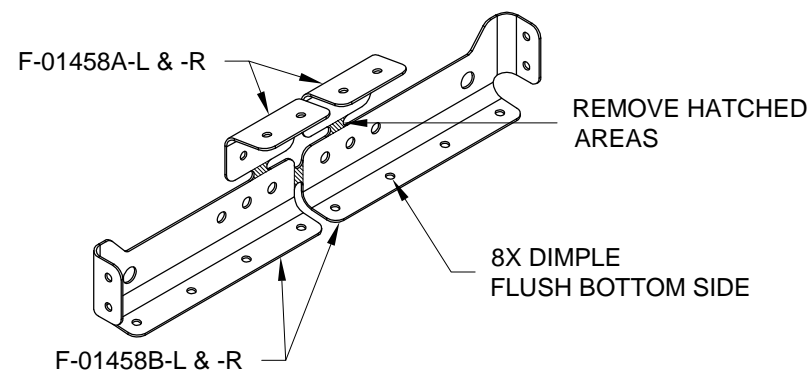

FIGURE 1: SIDE FRAME BRACKETS
Step 1: Separate the F-01458AB Side Frame Bracket as shown in Figure 1.
Step 2: Dimple the #40 holes in the Side Frame Brackets as shown in Figure 1.